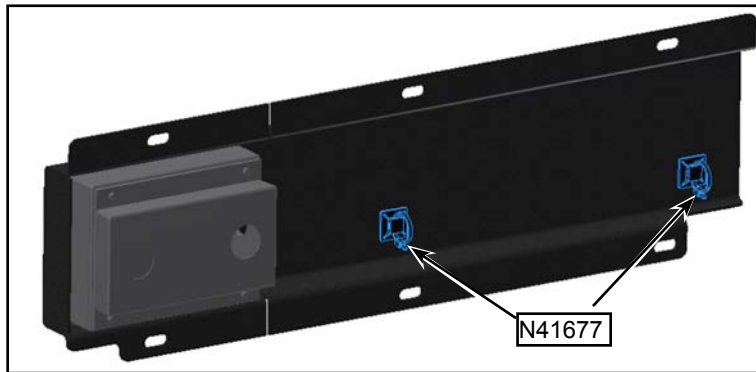

Figure 3 - N41677 Cable Tie Mounting Base Installation
1.7. Install N41677 (2x) cable tie mounting bases on the N81835 bracket. See Figure 3.